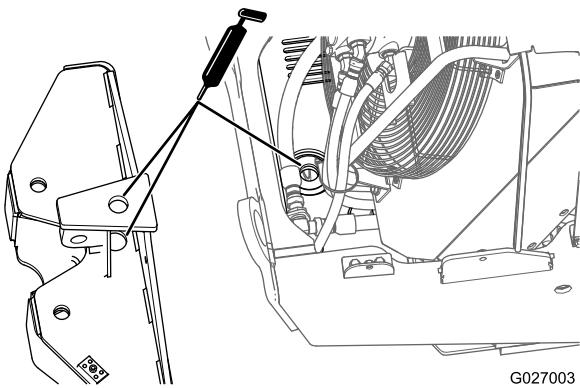
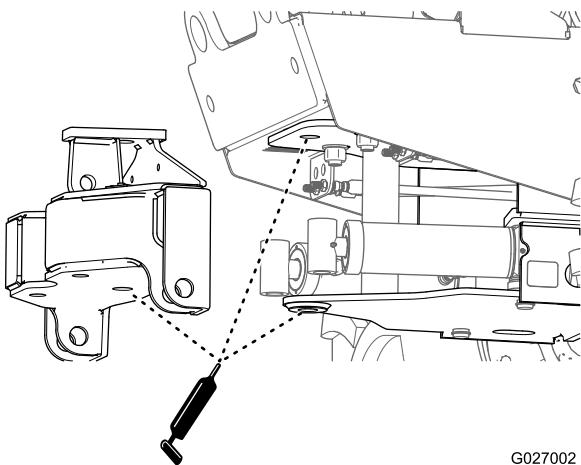

Figure 22
Figure 23
- 8. Apply a coat of the specified grease to the pivot pin and the pivot holes in the pivot frame and mounting frame (Figure 22 and Figure 23).